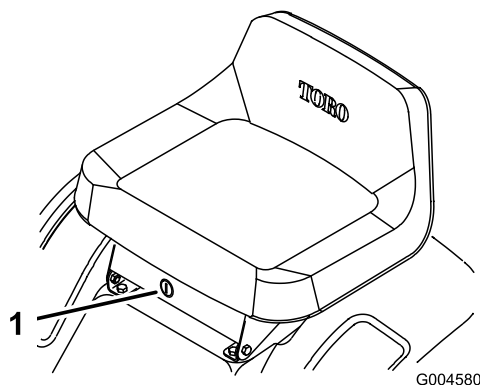

Figure 15
If you need to use the PTO while backing up, turn off the interlock feature using the KeyChoice switch located near the seat bracket (Figure 15).
2. Insert the KeyChoice key into the switch (Figure 15).